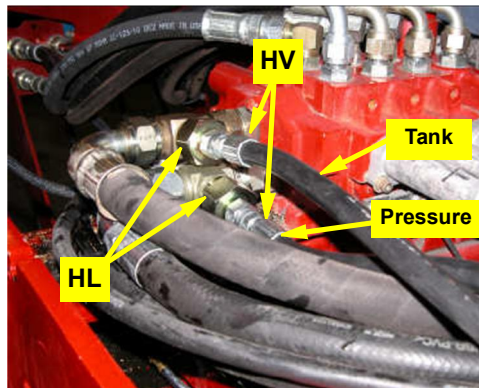

Figure 3a: Provided pressure and tank hoses connected to valve stack run tee adapters
- a. Connect the provided pressure and tank hoses **HV** to the adapters **HL** on the run tees **HK** (Figure 3a)